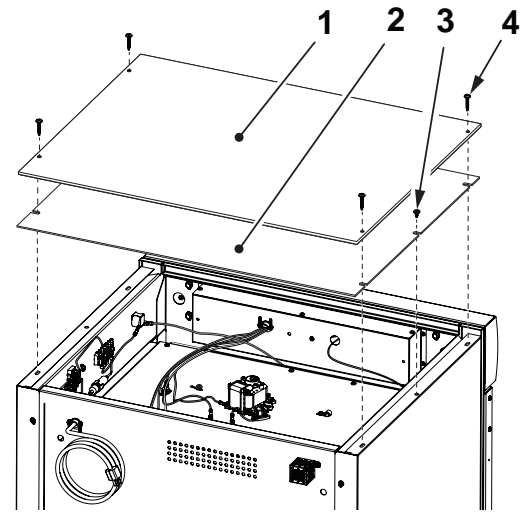
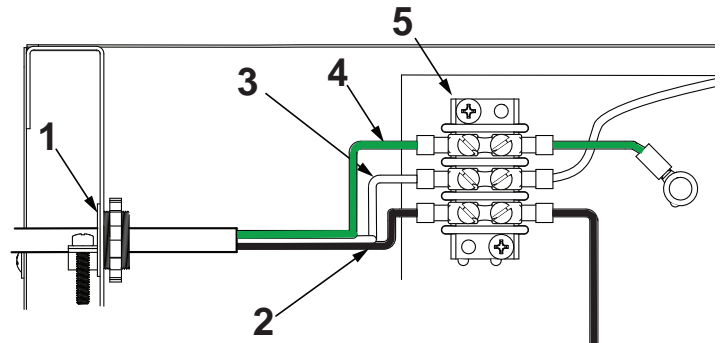
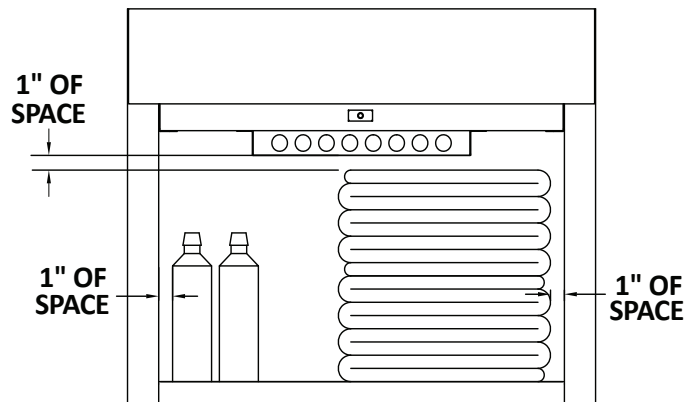

Fig. 12: Remove Top Covers
Fig. 13: Unwiring Terminal Block
Fig. 14: Content Spacing
2. Install the 4 shelf support clips into the desired location by inserting the top tab into the upper wall slot of that position (Fig. 12 & Fig. 13). Push up slightly on the inserted top tab and push the bottom half of the clip in until the bottom tab snaps into the lower slot.
4. Install the shelf with the notches on the bottom of the shelf aligned with the shelf supports (Fig. 13 & Fig. 14).
NOTE: Shelves are notched at each corner to rest on 4 shelf support clips that are inserted into the cabinet wall slots (Figure 14).